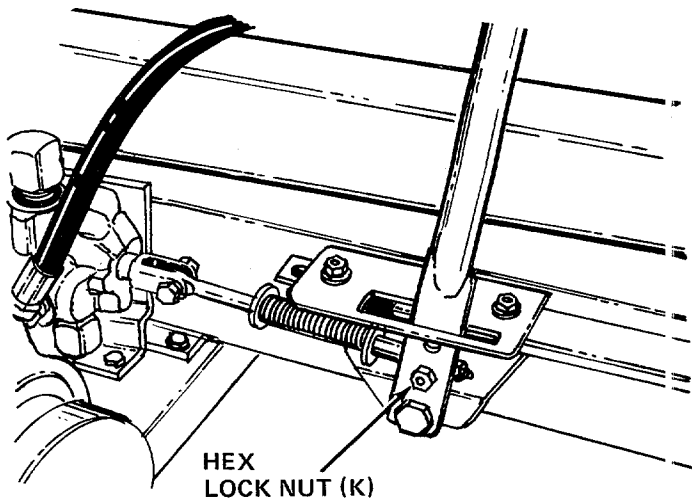

FIGURE 9
- Secure ferrule on engagement rod to engagement handle with hex lock nut (K). See figure 9. Tighten lock nut until nut is flush with the end of the ferrule.